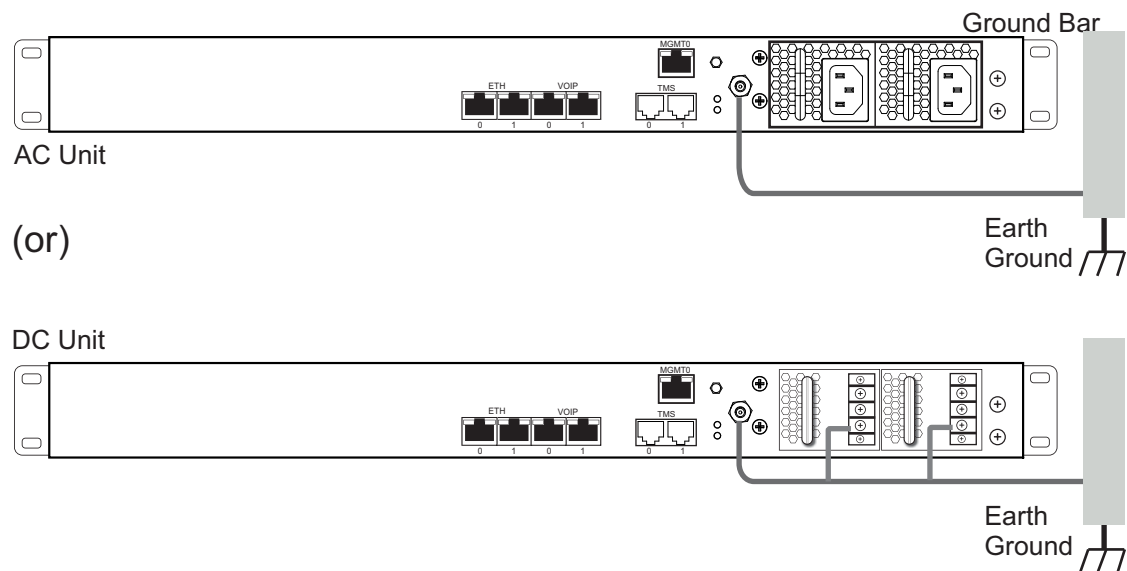

Figure 4.3 Chassis Ground Connection
- Do NOT daisy chain the ground between equipment. Use a ground bus bar, as show in Figure 4.3 on page 28.
1. Connect one end of a ground wire to the ground lug of the TSBC-HW-TRANS. See Figure 4.3 on page 28.